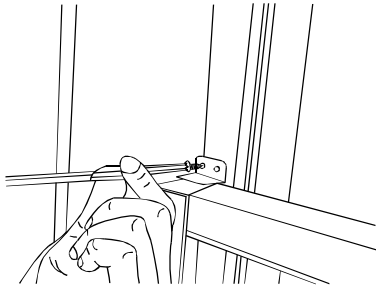

Fig.9
C. To secure lower sash in place, attach right angle sash lock with 3/4" (19mm) or 1/2" (12.7mm) screw as shown (Fig.9).